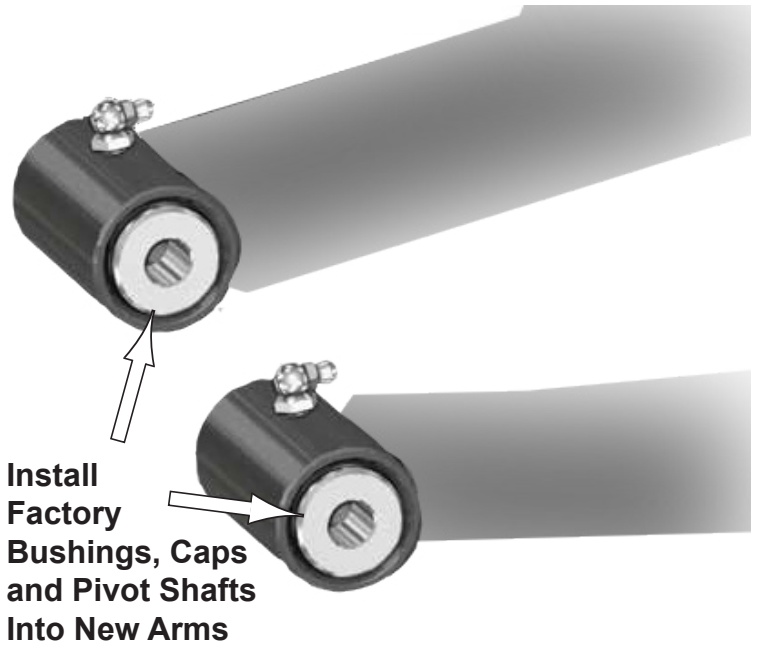

Fig.9
9. Now remove your Factory A-Arms, and remove the Stock Bushings, Caps and Pivot Shafts from them and install them into your New A-Arms. See **Fig.9**. Now you are ready to install them onto your machine.